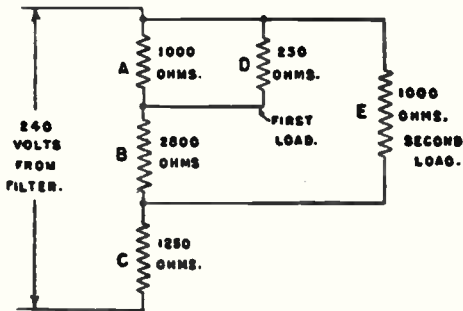
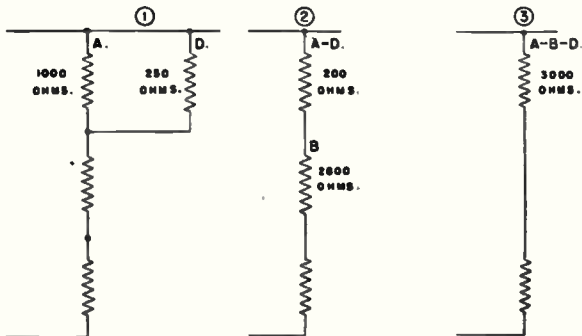
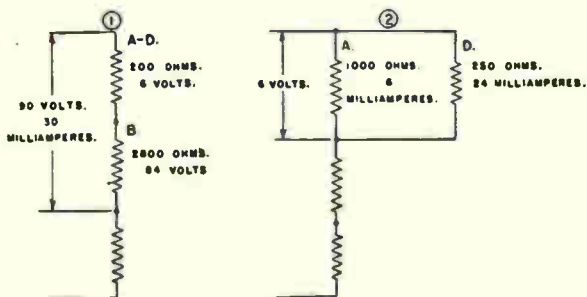

Fig. 4-3. Resistance values assigned to sections of the voltage divider and to the loads.
Fig. 4-4. Equivalent values are found for parallel resistances, and these equivalents are considered as being in series with other resistances.
Fig. 4-7. Current flow rates and potential differences finally are determined for all the resistances of the voltage divider and loads.
**Currents and Voltages in a Voltage Divider.** Consider a voltage divider with two connected loads as shown in Fig. 4-3. The first step in analysis is to consider the parallel resistances A and D shown separately at 1 in Fig. 4-4. The equivalent resistance of 1000 ohms and 250 ohms in parallel is 200 ohms, so we may represent resistors A and D as the 200-ohm resistor A-D in diagram 2. The 200 ohms of A-D is in series with voltage divider resistor B, whose resistance
In diagram 1 of Fig. 4-7 (corresponding to 2 of Fig. 4-4) we have separated resistances A-D with 200 ohms and B with 2800 ohms. The total potential difference of 90 volts divides in proportion to the re-
In diagram 2 of Fig. 4-7 (corresponding to 1 of Fig. 4-4) we have separated the parallel resistances A and D. The total current flow of 30 milliamperes divides inversely as the resistances in ohms, so we have 6 milliamperes in the 1000 ohms of resistance A, and have 24 milliamperes in the 250 ohms of resistance D. Note that the ratio of the resistances A and D is 1000/250 or 4/1, and that the ratio of the current flows is 6/24 or 1/4. We simply invert the ratio of resistances to find the ratio of current flows. The potential difference is, of course, the same across these two resistances which are in parallel.